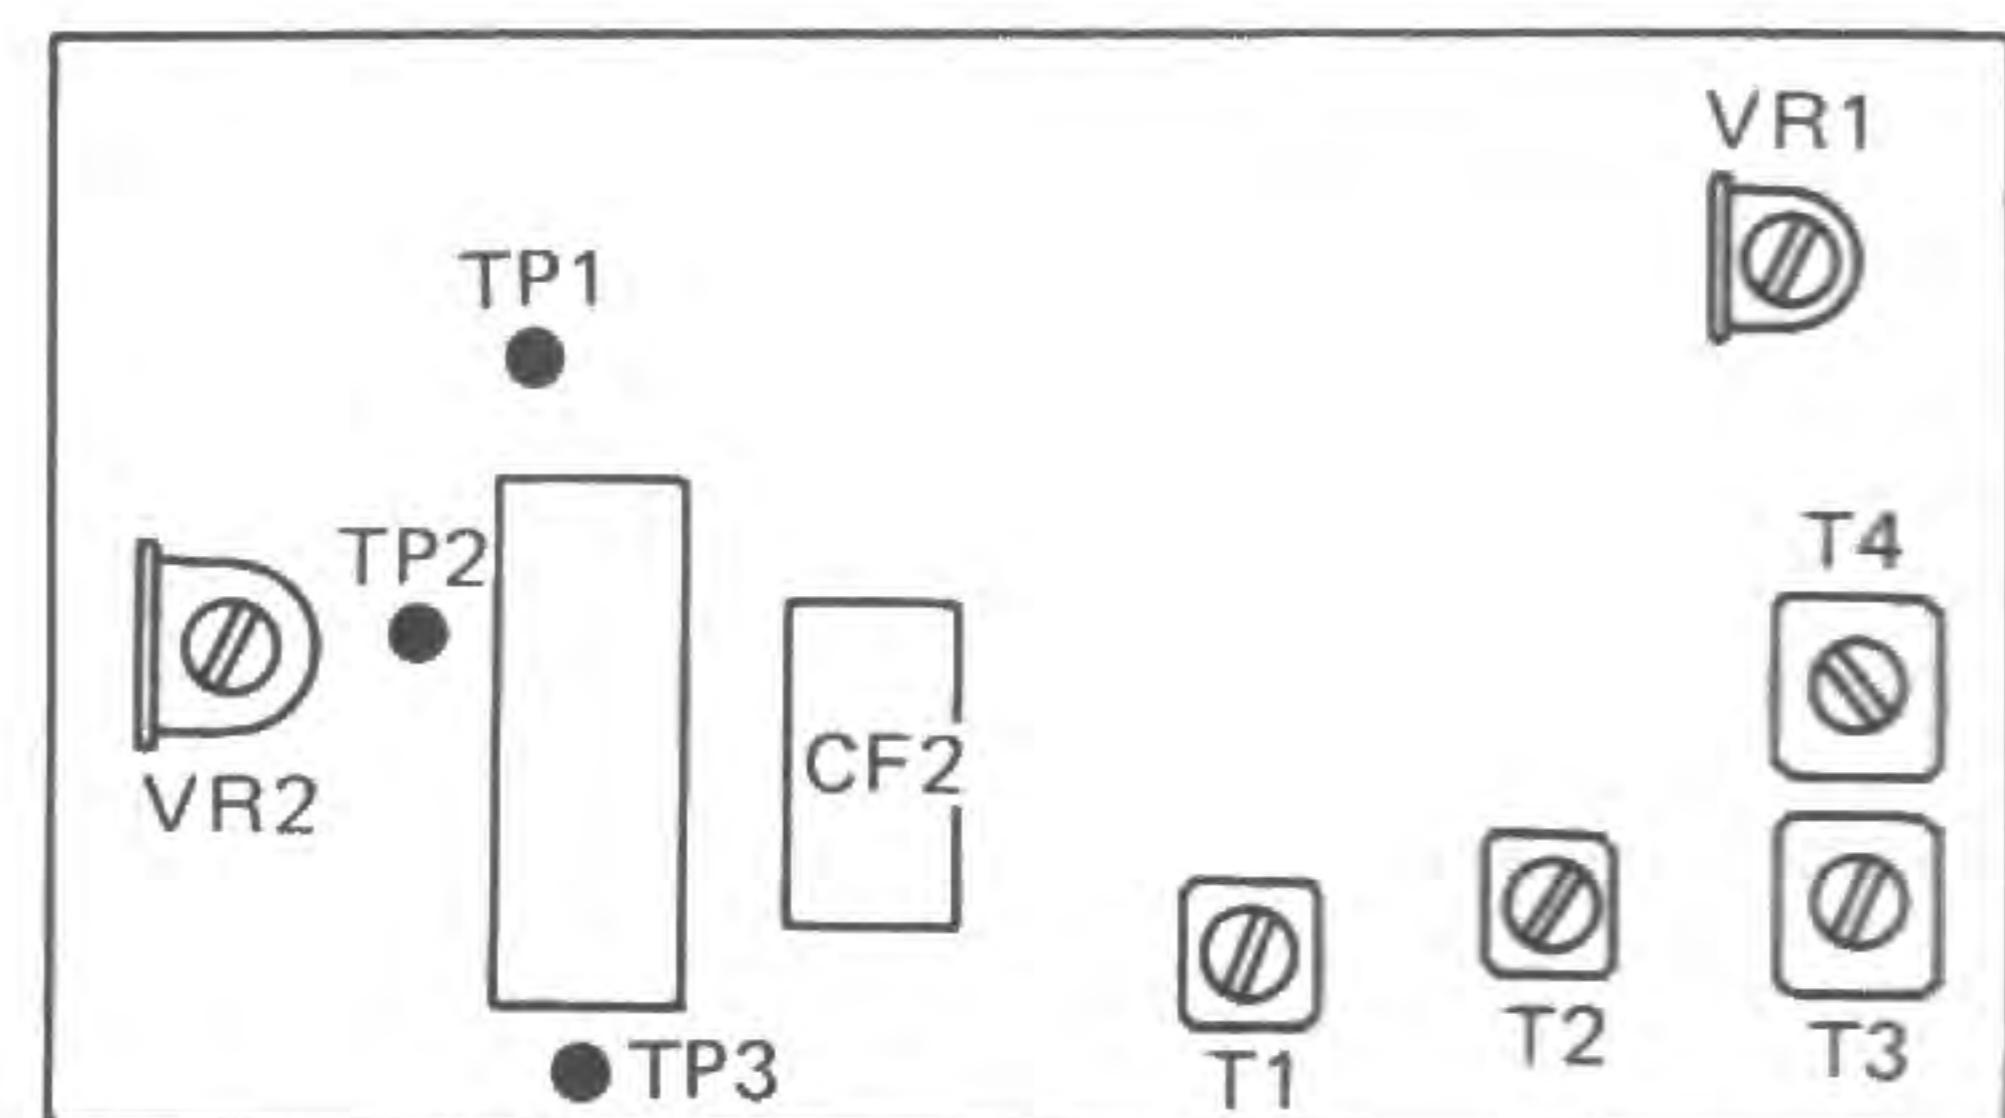

Fig. 20 FM-IF unit
- 1) Connect the vacuum-tube voltmeter to FIV terminal (Fig. 20).
- 3) Change the SSG output signal, making it exhibit a frequency deviation of 1 kHz or 7.5 kHz. Adjust T3 and T4 (Fig. 20) to obtain the best possible waveform display and to maximize the FM output in each case of frequency deviation.